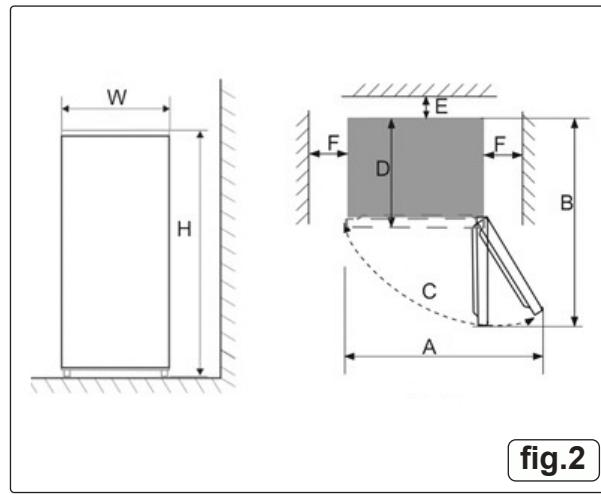

fig.2
- Figure 2 is for reference only and illustrate the space requirements for the product.